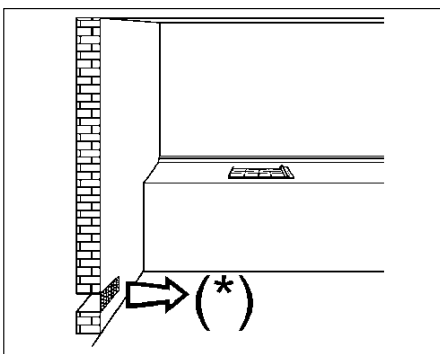
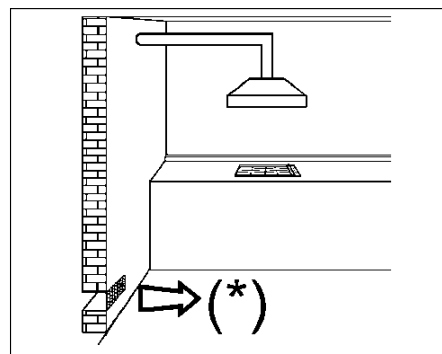
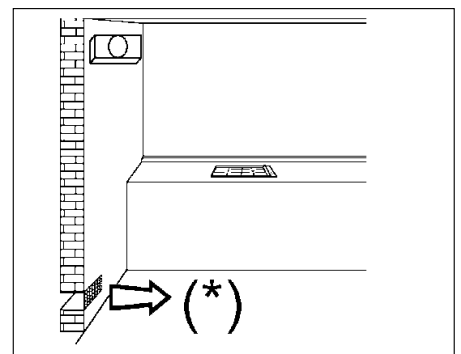

FIG. 3
FIG. 4
FIG. 5
- **use of a gas cooking appliance produces heat and moisture in the room in which it is installed. The room must therefore be well ventilated by keeping the natural air vents clear (see fig. 3) and by activating the mechanical aeration device (suction hood or electric fan fig. 4 and fig. 5).**
It is essential to ensure that the room in which the appliance is installed is permanently ventilated in order to allow the appliance itself to operate correctly. The necessary amount of air is that required for regular gas combustion and ventilation of the relative room, the volume of which must not be less than 20 m3. Air must naturally flow through permanent openings in the walls of the room in question. These openings must vent the fumes outdoors and their section must be at least 100 cm2 (see fig. 3). Construction of the openings must ensure that the openings themselves may never be blocked. Indirect ventilation by air drawn from an adjacent room is also permitted, in strict compliance with the provisions in force.
Gas cooking appliances must always dispose of their combustion fumes through hoods. These must be connected to flues, chimneys or straight outside. If it is not possible to install a hood, an electric fan can be installed on a window or on a wall facing outside (see fig. 4). This must be activated at the same time as the appliance (see fig. 5), so long as the specifications in the provisions in force are strictly complied with.